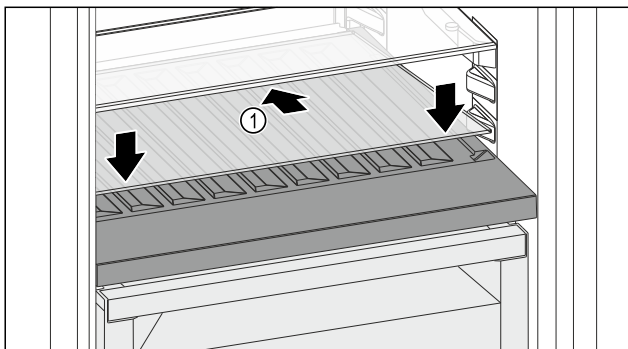

Fig. 158
- Place the glass shelf Fig. 158 (1) at an angle, sloping it downwards and backwards.
- Lower the glass shelf Fig. 158 (1) at the front.